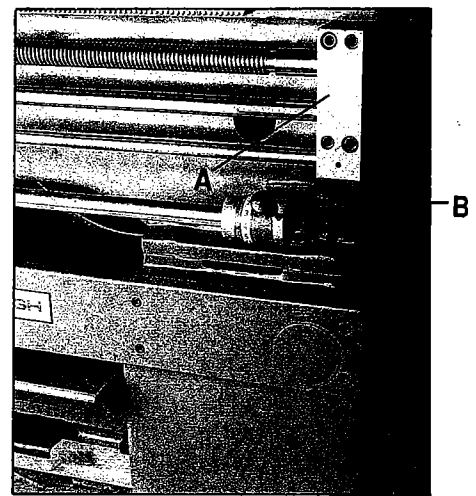

Fig. 6
5. **Leadscrew Feed Rod** - lubricate leadscrew and feed rod where they enter rod bracket (A, Fig. 6) with 30W machine oil once daily.
9. **Carriage Stop Assembly** - lubricate two ball oilers (B, Fig. 6) at either end daily. **Note:** Figure 6 only shows one end of carriage stop assembly.